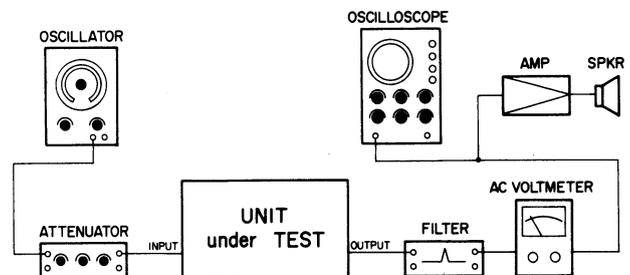

Fig. 5-11-3
- B. Test connection – Figure 5-11-3
- B. Connecting diagram : Refer to Fig. 5-11-3